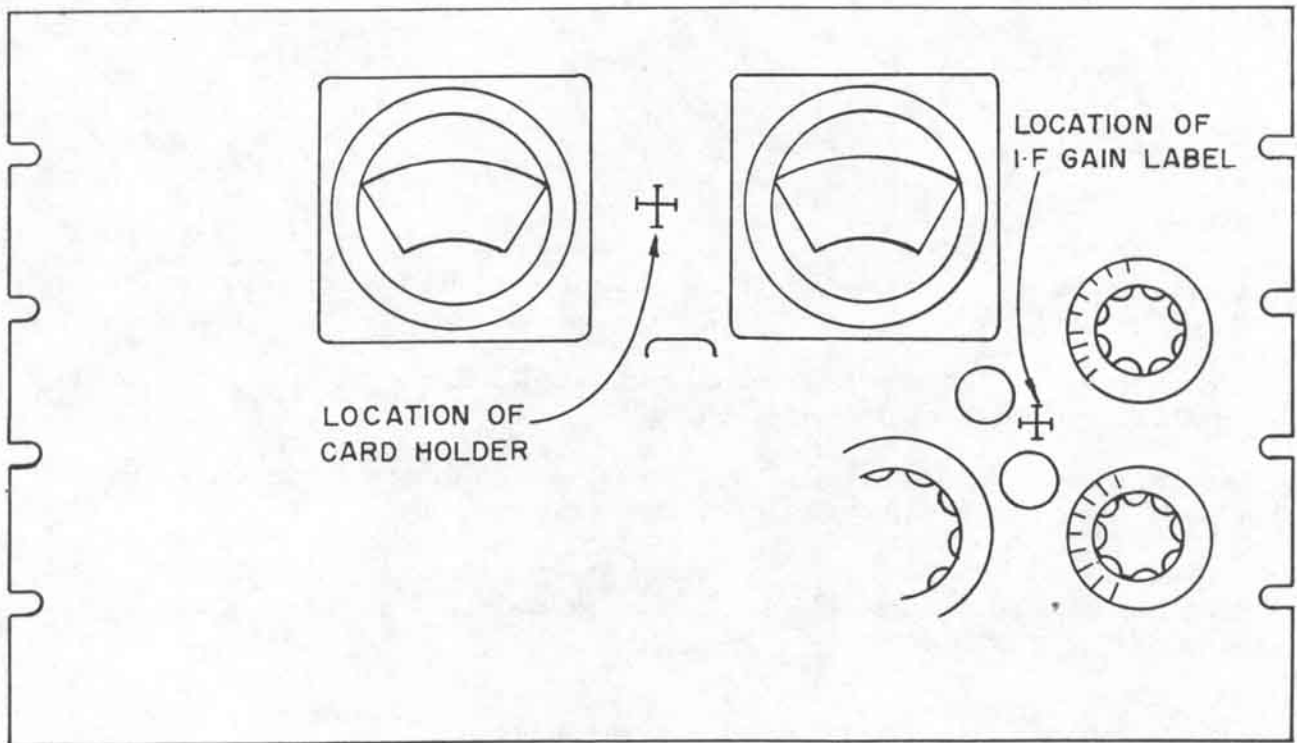

Figure 1. Location of IF Gain Label and Card Holder
b. Addition of IF Gain label and card-holder to the front panel (see Figure 1).
(1) Remove bottom plates from receiver and tuning unit.
(2) Remove dial lock knob and assembly, retaining the knob, nut and lockwasher for later use with new IF Gain control.